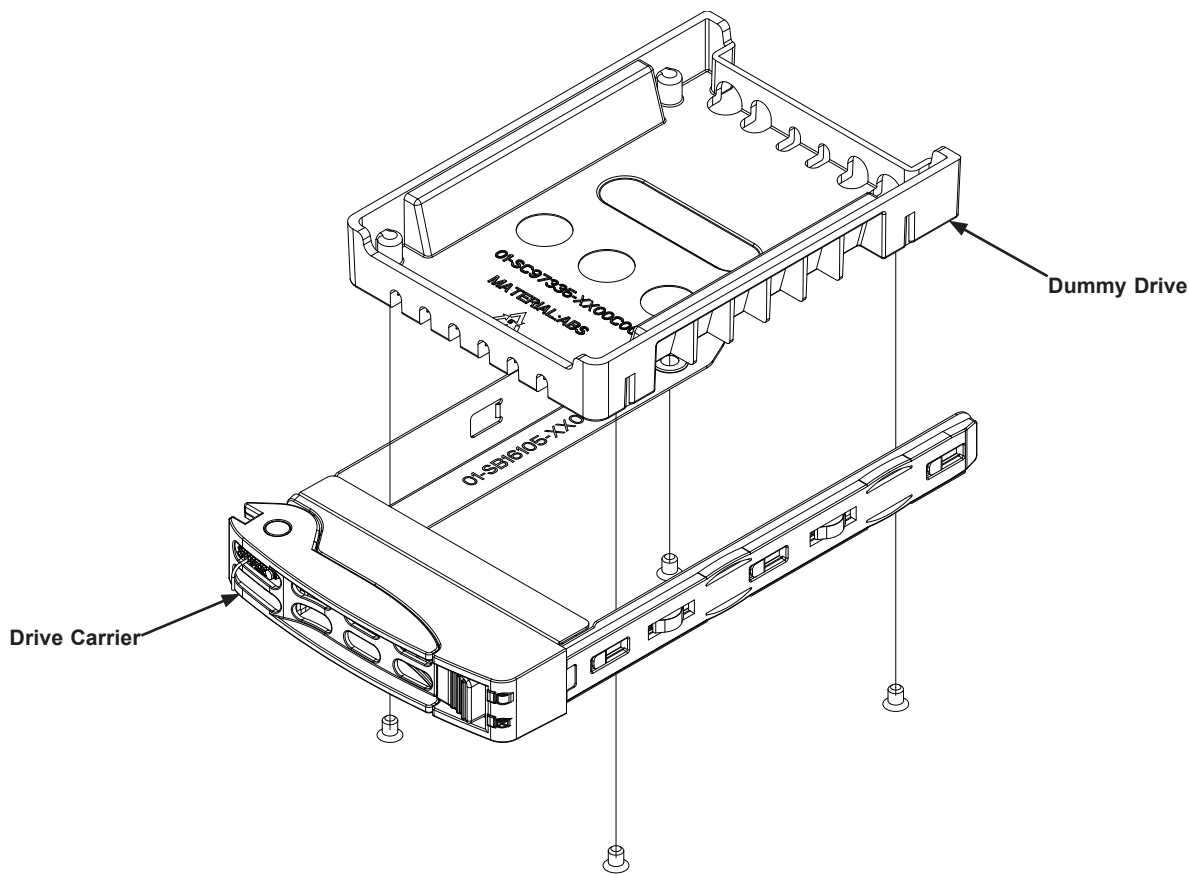

Figure 3-7. Removing a Dummy Drive from a Carrier
3. Remove the dummy drive from the carrier (Figure 3-7).